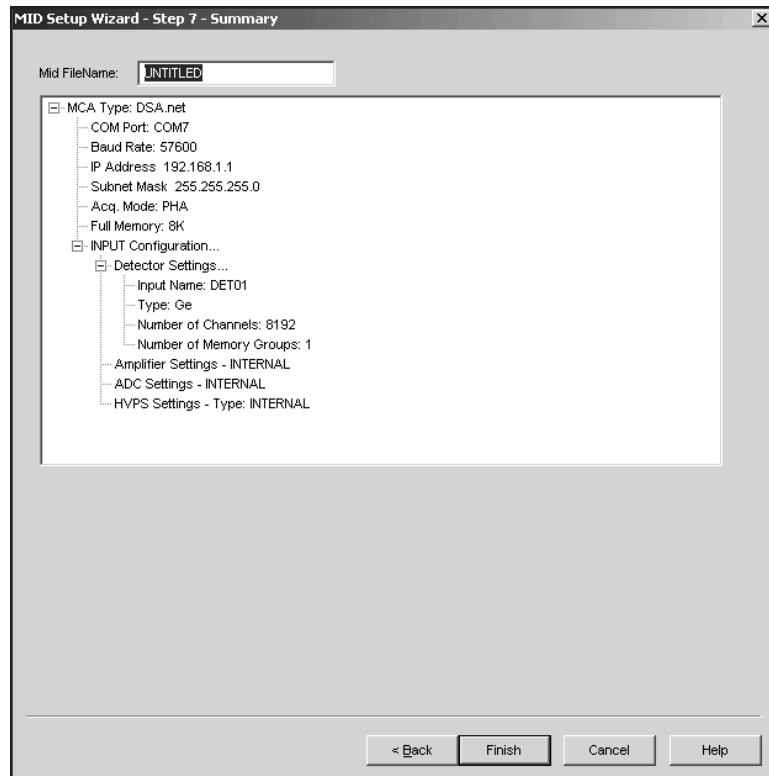

Figure 7 Summarizing the Definition
Step 7 (Figure 7) lets you review a summary of the Input Definition and asks you to enter the definition's MID FileName.
The Input Name field at the top of Figure 7 defaults to **UNTITLED**, which you'll probably want to change to something more meaningful. If the name you enter is the same as that of an existing MID file, the system will ask if you want to overwrite the existing file.